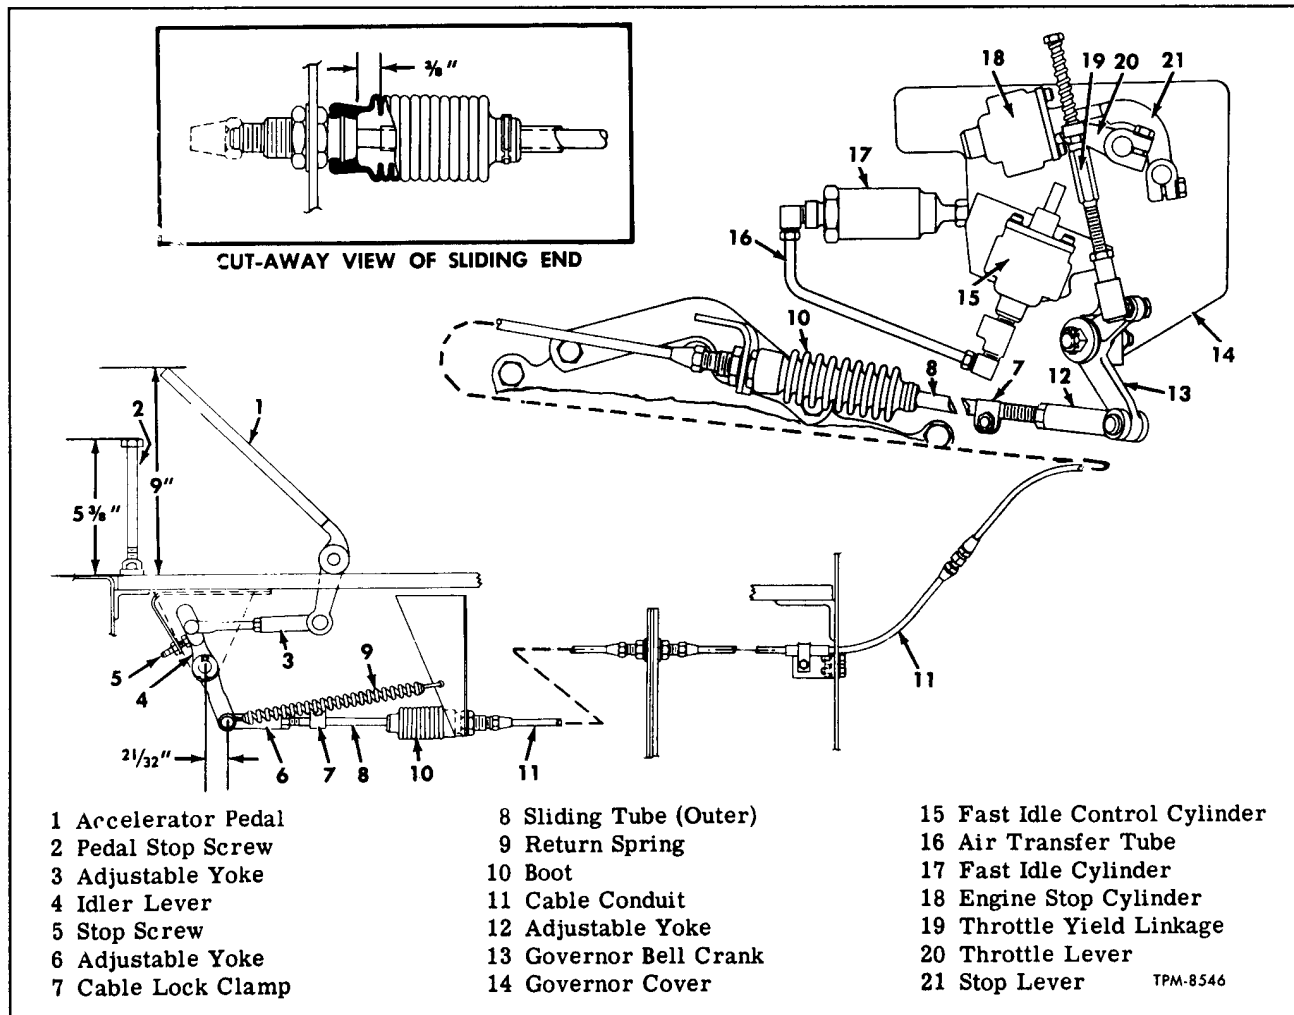

Figure 2—Accelerator Pedal Linkage
Key numbers in text refer to figure 2.
Accelerator pedal is connected to governor lever at engine by rods, levers and flexible cable which is encased in metal tubing. Figure 2 shows construction of accelerator linkage.
Following steps must be performed in sequence as given to assure proper operation of linkage. Key numbers refer to figure 2 unless otherwise indicated.
2. In engine compartment, slide boot (10) onto tube (8) then install tube (8) over inner tube. Attach rear yoke (12) to bell crank (13) with clevis pin. Try operating the bell crank to move governor lever from idle to full fuel position. Linkage at governor should move freely.
3. Hold bell crank (13) at the full fuel position and note gap between end of outer tube (8) and swivel. If necessary loosen lock nut at clevis (12) and turn outer tube to adjust gap to $3/8$ " as shown in cut-away view in figure 2. Tighten lock nut when gap is as specified.
5. Assemble cable lock and clamp (7) to attach cable to sliding end tube (8).
6. In compartment at front of coach, install outer tube (8) and boot (10) over inner tube.
7. Install lever (4) and pivot pin. Check position of lever to be sure that the lower pin hole is $21/32$ " rearward of pivot pin when lever is against stop screw (5). If necessary, adjust stop screw (5) to obtain this dimension.
8. Connect adjustable yoke (6) to lever (4) us-
ing clevis pin. Hold lever (4) against stop screw (5) and measure gap between outer tube (8) and swivel. If necessary loosen lock nut and turn outer tube to adjust gap to $3/8$ " as shown in cut-away view in figure 2. Tighten lock nut when gap is as specified.
9. Assemble cable lock and clamp (7) to attach cable to sliding end tube (8).
10. Adjust accelerator pedal stop screw (2) to $5-3/8$ " height.
11. Attach adjustable yoke (3) and link to lower end of accelerator and idler lever (4). Measure height of accelerator pedal end above floor. This dimension should be 9" as shown in figure 2. Adjust yoke (3) as necessary to obtain proper dimension.
12. Install return spring (9).
13. Check operation of accelerator to be sure of full throttle. Slight adjustment at pedal stop screw (2) may be necessary to allow full travel of accelerator linkage.